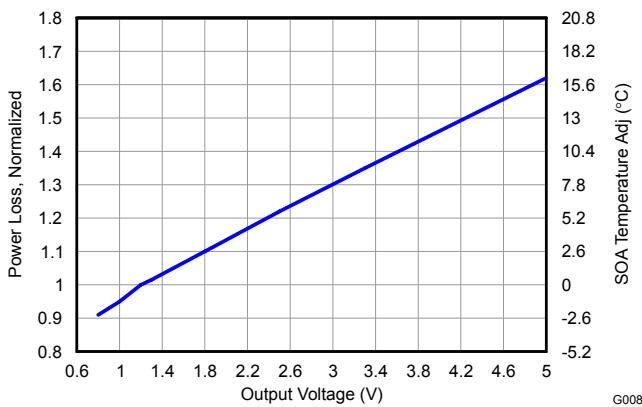

Figure 14. Normalized Power Loss vs Output Voltage
- Normalized Power Loss for output voltage \approx 0.95 (Figure 14)
- SOA adjustment for output voltage \approx -1.3°C (Figure 14)